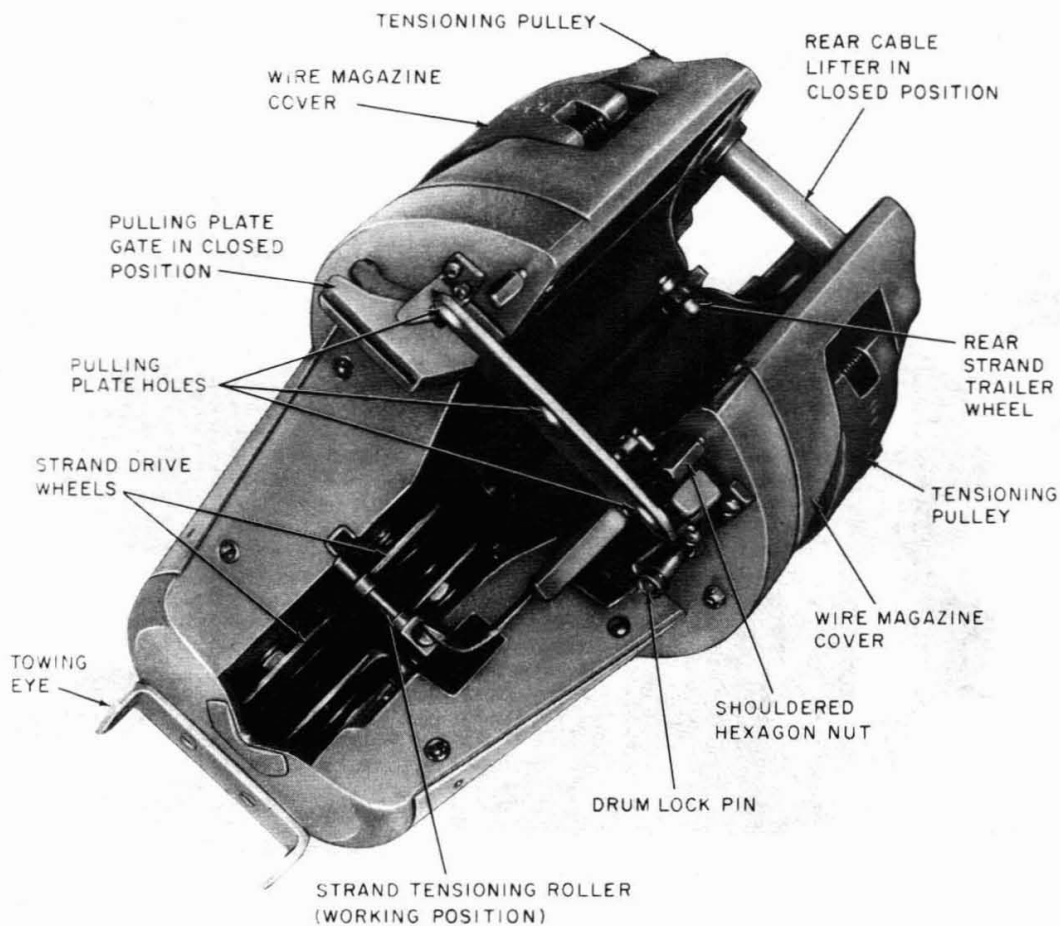
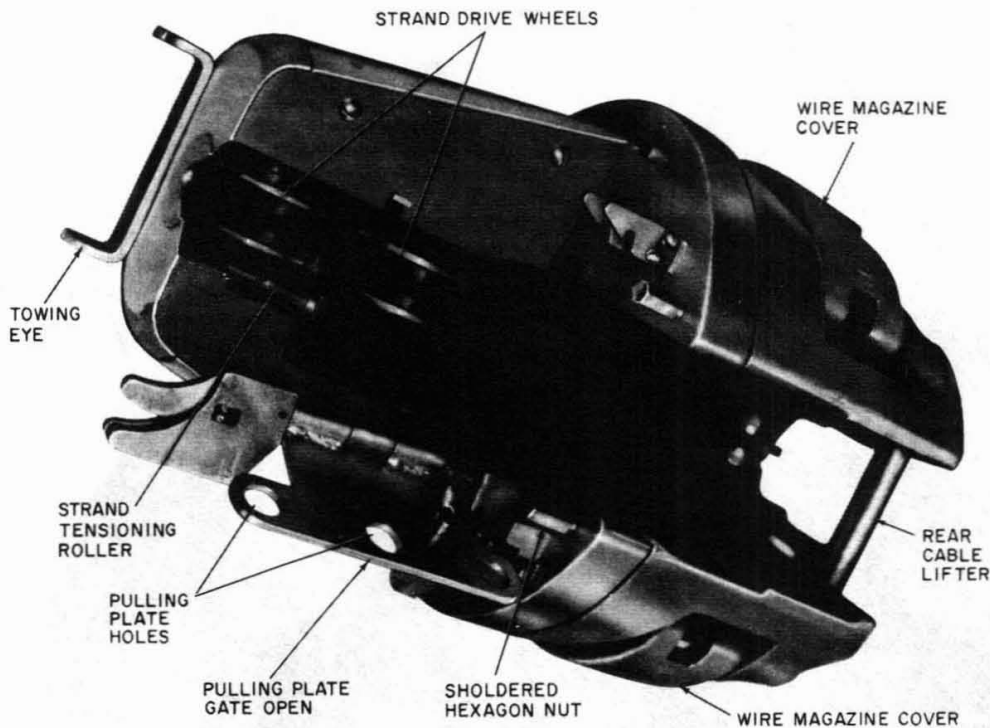

Fig. 3—Under Side of Lasher
Fig. 5—Lasher Showing Strand Tensioning Roller in Retracted Position
**3.04** Two strand drive wheels are mounted in the forward part of the carriage and a smaller trailer wheel is located in the rear of the carriage as illustrated in Fig. 3.
**3.08** The strand tensioning roller assembly of the J cable lasher—Model 2 (Fig. 3) need not be removed when lashing the strand with cable in place as it was in the earlier J cable lasher, but is turned to one side and retracted between the drive wheel and the housing where it will remain until disengaged (Fig. 5).
**4.07** The rubber strand drive wheels (Fig. 3) require replacement when they are worn to the point where the strand tensioning roller (in the engaged position) does not make contact with new 6.6M strand.